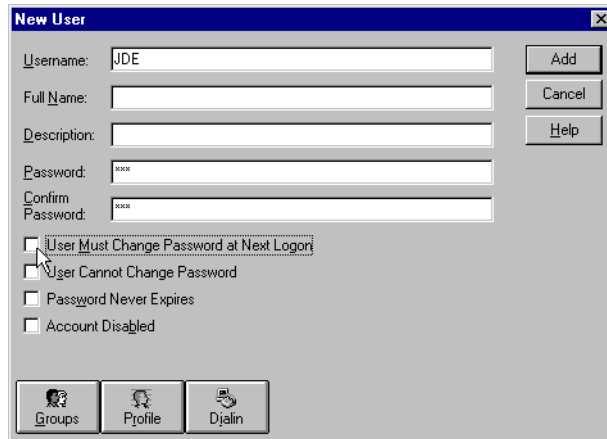

Figure 48. Creating a new Windows NT user
- b. Select **User->New User** to be able to enter a new user. The display looks similar to the example in Figure 48 on page 172. Enter the user *JDE* with the password *JDE*.